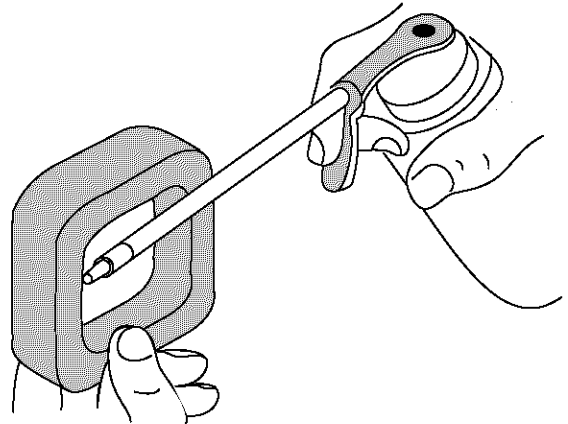

Fig. 21
4. Apply enough clean motor oil to lightly coat the filter (Fig. 21).